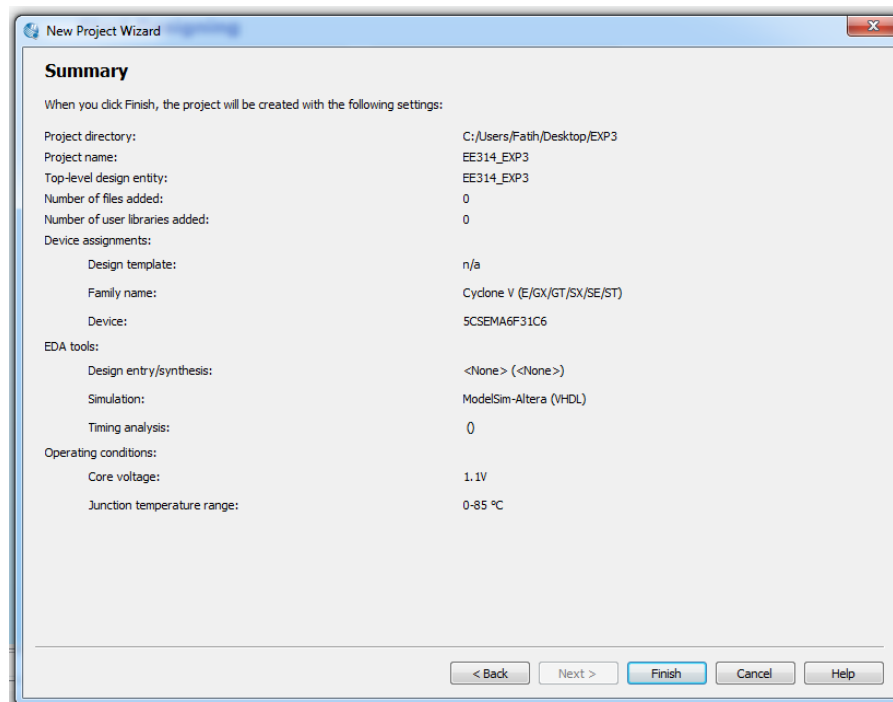

Fig. 5: Summary window
C.6) A summary window will be visible. The summary window should be similar to the Fig. 5. Click **Finish**.